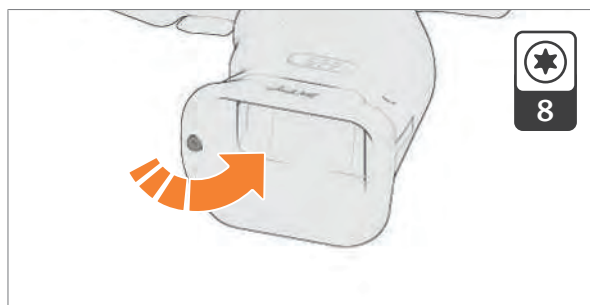

Fig. 23: Remove screw
2. Loosen screw for Jet-Funnel with Allen key and remove (Fig. 23) .